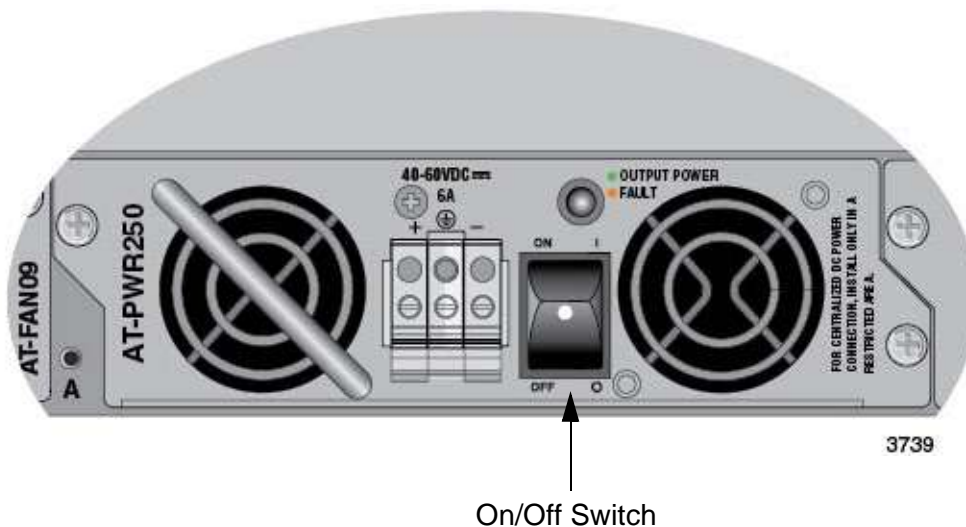

Figure 53. On/Off Switch on AT-PWR250-80 Power Supply
2. Verify that the On/Off switch on the power supply is in the Off position. Refer to Figure 53.